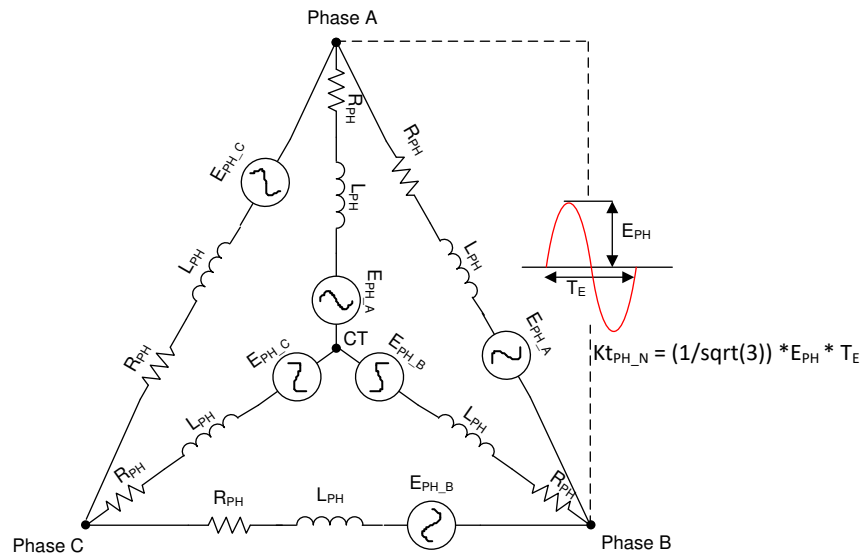

Figure 3-4. Motor BEMF Constant
Step 4: If the motor does not have a datasheet, then measure the voltage across any two phases of the motor using an oscilloscope by manually spinning the motor. A sinusoidal or trapezoidal voltage should appear on the oscilloscope. Measure the peak voltage E_{PH} in milli-volts and time period T_E in seconds as shown in Figure 3-4. Calculate BEMF constant K_e as shown in Equation 5.